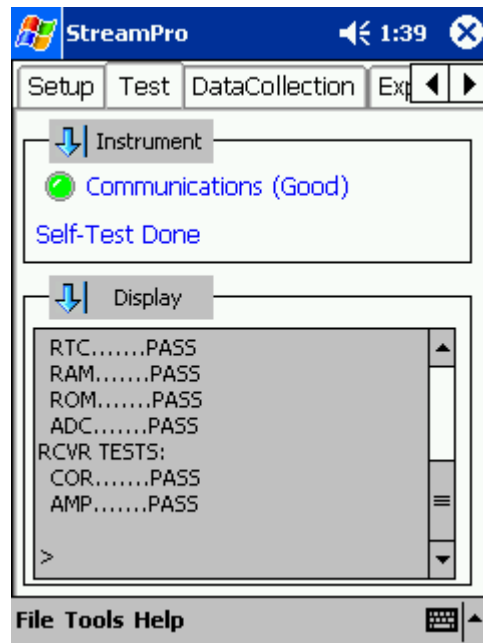

Figure 7. Testing the StreamPro
- g. Tap **Self-Test**. Once the test is complete, use the scroll bar on the right side of the screen to view all the test results (see Figure 7).